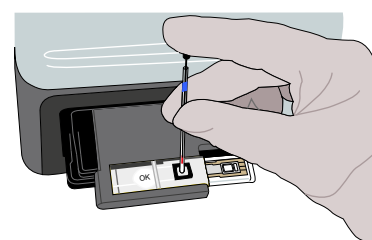

Figure 26. Sample transfer to cassette
- Place the tip of the sample transfer device into the sample application hole of the Labmaster LUCIA™ cassette so that it contacts the membrane. See Figure 26.